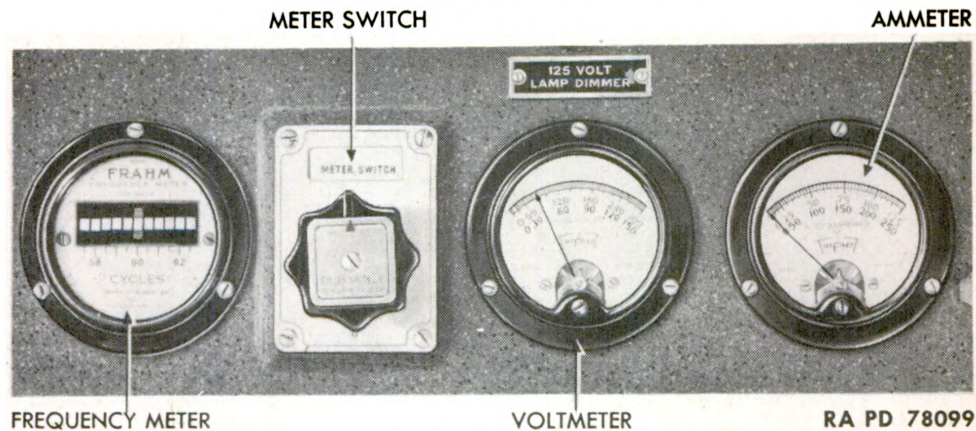
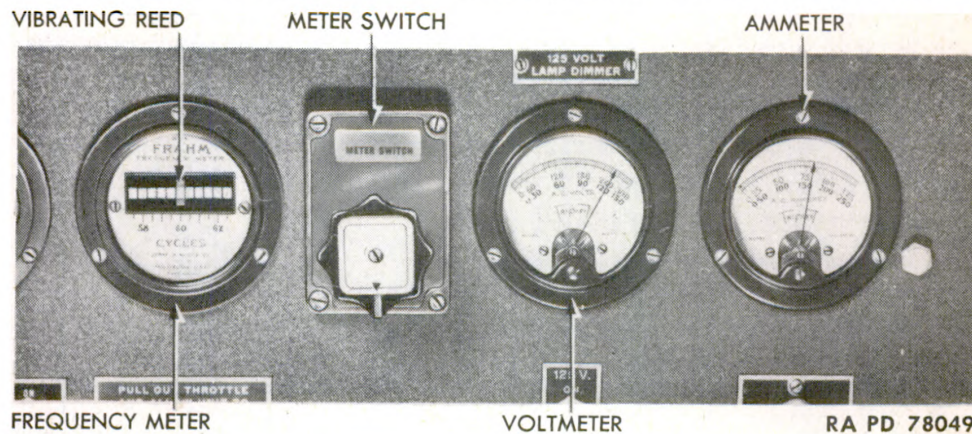

Figure 8 – Instruments Showing Correct Exciter Indication
Figure 9 – Instruments Indicating Correct Reading for a Circuit Phase
c. **Load Meter.** To check the voltage of the exciter, the amperage of the current being delivered to each of the three phases of the connected load, and the voltage between phases, the meter switch is provided. The four positions of the control knob, "EXC," "A," "B," and "C," are labeled on the face plate of the switch. When the indicating mark on the control knob is turned to "EXC," the exciter voltage is reflected on the voltmeter (fig. 8). As the switch turns to the "A," "B," and "C" phases of the circuit, the amperage and voltage show on the ammeter and voltmeter (fig. 9). The average of the three readings on the ammeter should not exceed 162 amperes for continuous operation, or 202 amperes over a period of operation not to exceed two hours. The difference in ammeter readings should not exceed 10 percent of the average. If the load is largely of the resistance type, such as lighting or heating units, so that the power factor is higher than 80 percent, the current must be limited to approximately 129 amperes normal load, and 162 amperes overload, in order not to exceed the rated capacity of the engine. For 250-volt operation, amperage readings should be one-half those given above.
(1) Two 125-volt bulbs are located in rubber sockets at the top of the panel. The light switch is at the right of the center of the panel, and the lamp-dimming rheostat is located between the lights. In field service, the illumination should be kept as low as possible.